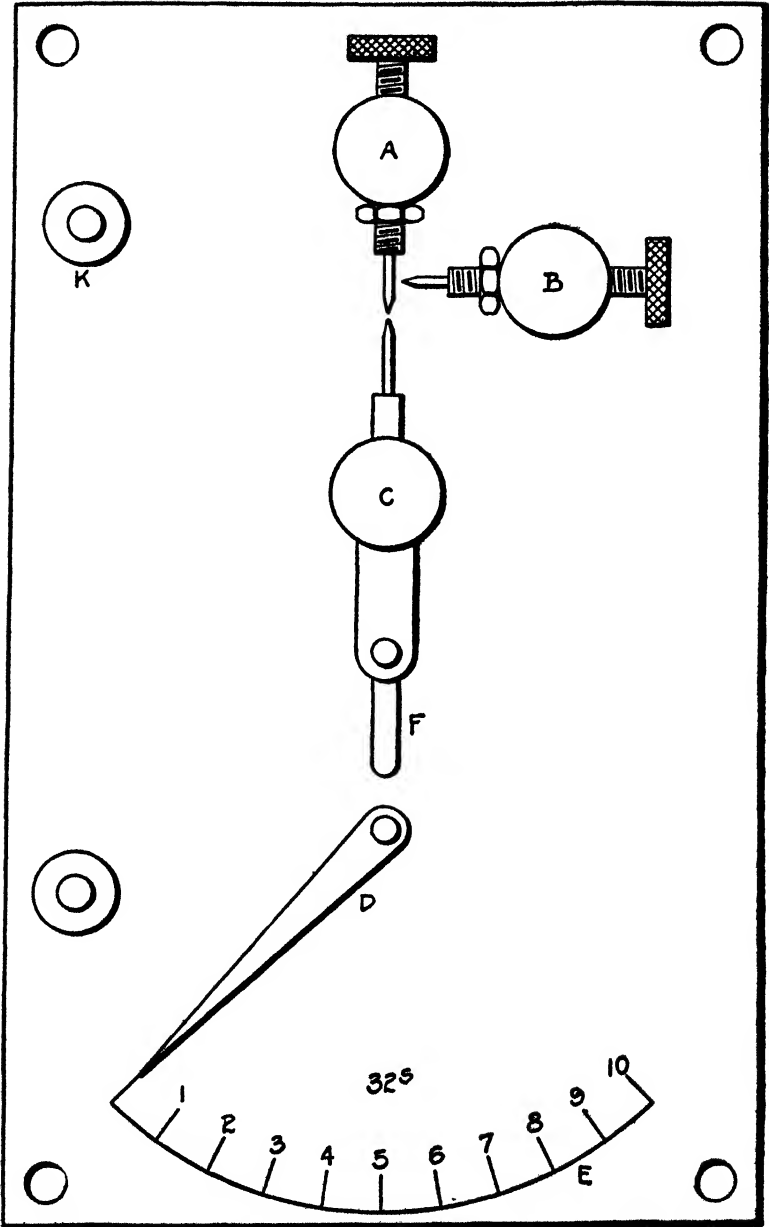

Fig. 45. High-Tension Test Points with Astatic Gap
**Testing High Tension Coils under Working Conditions.** *Astatic Gap.* The astatic gap has three points, Fig. 45. Point *A* is connected to the high-tension lead of the coil or armature, while the point *B* is insulated and is the static point. The function of the static point is to maintain an even resistance between the points *A* and *C*, thereby giving a definite resistance for a given distance; this is of prime importance to provide a reliable test.
*Special Dial Gap.* For quick results, utilize the special dial gap, Fig. 45. This gap has a fiber base  $\frac{1}{4}'' \times 3\frac{1}{4}'' \times 5\frac{1}{2}''$ , on which are mounted two stationary points marked *A* and *B* and a grounded movable point *C*; below is a pointer *D*, which moves on the scale